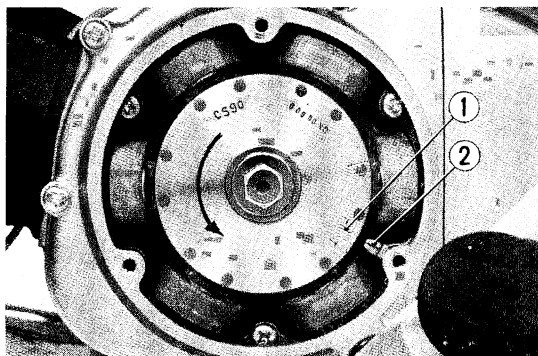
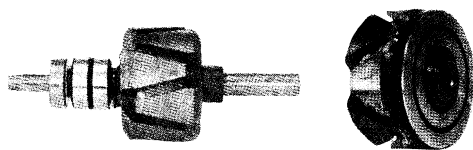

Fig. 20-15 Alternator, permanent magnet type: (1) F mark, (2) alignment mark
Fig. 20-16 Two typical electromagnetic field coils (Kawasaki Motors Corporation)
**Alternators.** The two basic types of alternators are those with permanent rotating magnets and stationary stator windings (Fig. 20-15), and those with coil type electromagnets that rotate and produce the magnetic field that cuts the stator windings to produce the current flow (Fig. 20-16). This second type has the advantages of being able to vary the magnetic field strength by varying current flow through the field windings, and thereby varying alternator stator output.